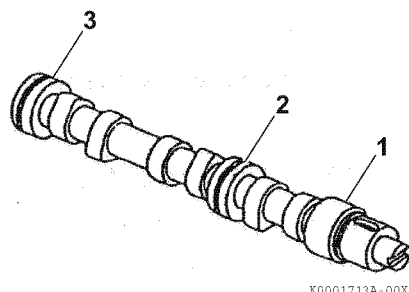

Figure 6-76
4. Measure the diameter of the gear end (**Figure 6-76, (1)**), intermediate (**Figure 6-76, (2)**) and flywheel end (**Figure 6-76, (3)**) bearing journals. Record the measurements. *See Camshaft on page 6-5 for specifications.*